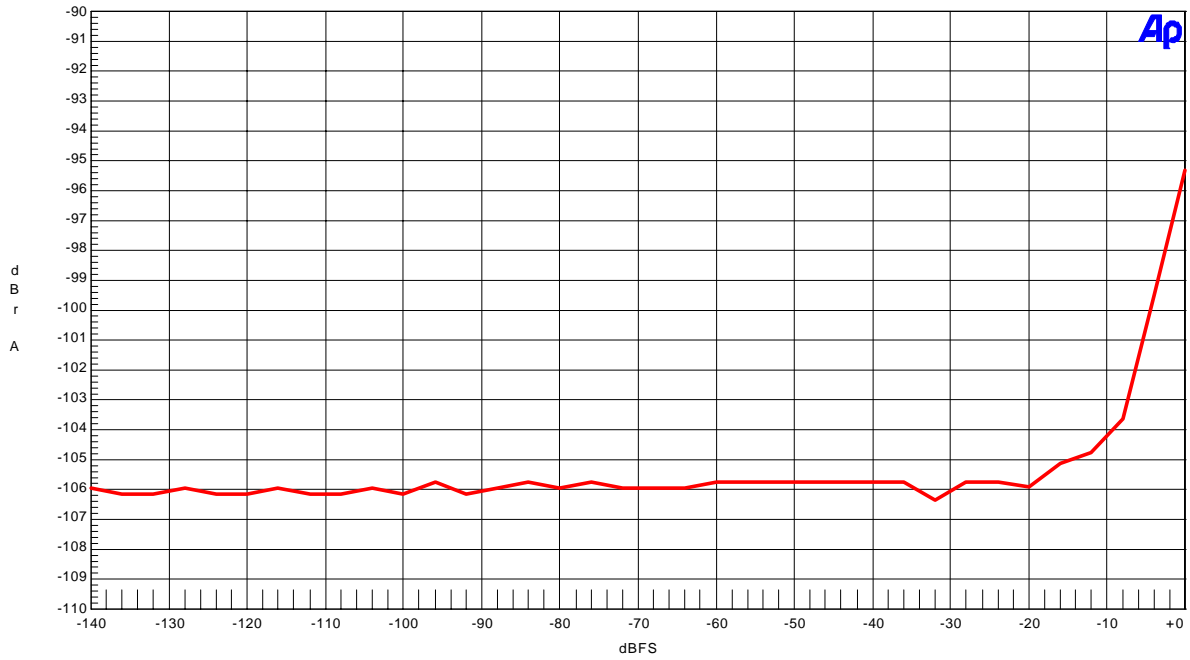

Figure 20. THD+N vs Input Level (fin=1kHz)
- Figure 20. THD+N vs Input Level (fin=1kHz)